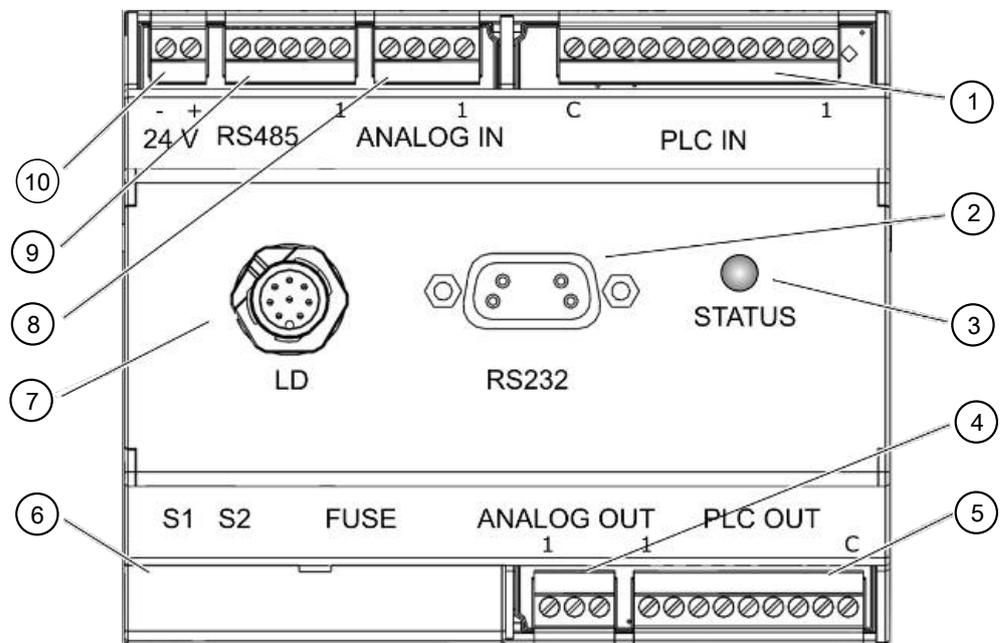

Fig. 1: Front view
PLC IN, Fig. 1 (1)
PLC OUT, Fig. 1 (5)
ANALOG IN, Fig. 1 (8) Analog input (input voltage range 0 V to 10.8 V)
ANALOG OUT, Fig. 1 (4) Analog outputs (for example for logging leak rate and backing pressure)
RS232, Fig. 1 (2)
RS485, Fig. 1 (9) Connection for RS-485
**STATUS LED, Fig. 1
S1, S2, Fig. 1 (6)**
Connection LD, Fig. 1 (7) **Connection for the data cable to the leak detector**
24V OUT, Fig. 1 (10) **24V output**